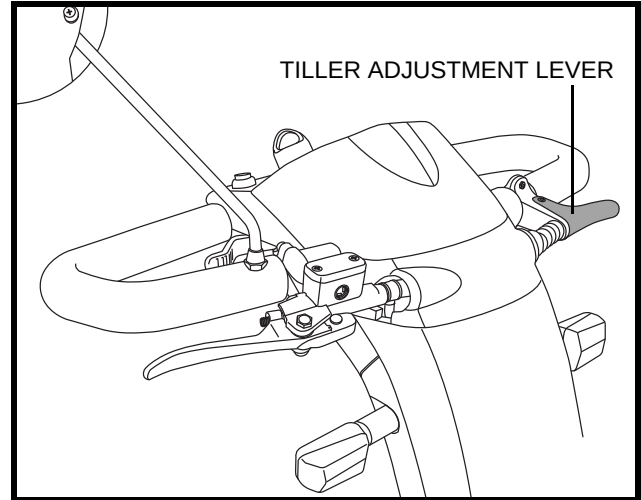

Figure 15. Tiller Adjustment
1. Squeeze the tiller adjustment lever. **See figure 15.**